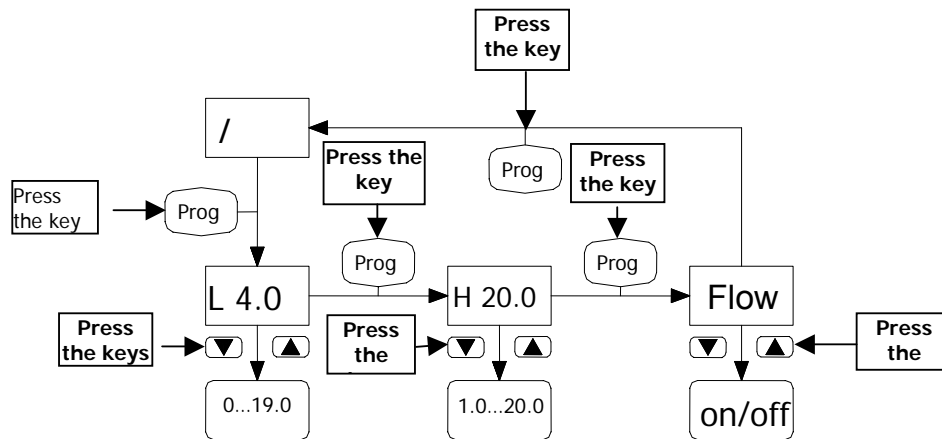

Fig. 27: 0/4...20 Direct Current Mode Menu
– **Selecting the Lower Limit (see Fig. 27)**
– **Selecting the Upper Limit (see Fig. 27)**
– **Flow Control Function (see Fig. 27)**